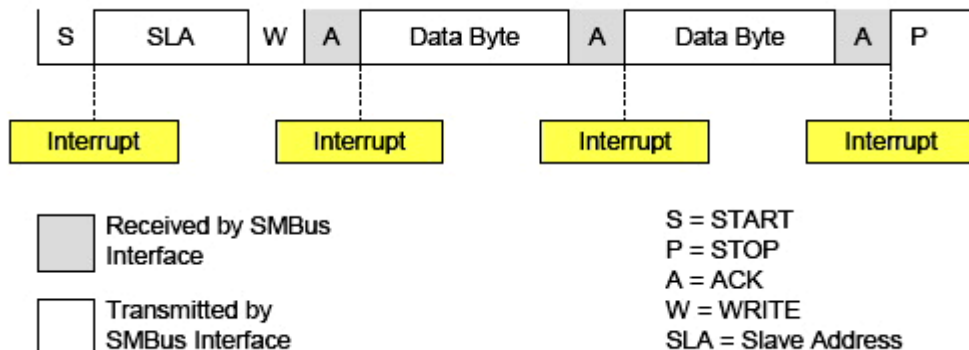

Figure 4.11 - Typical Master Transmitter Sequence
There are two modes; (1) Master Transmitter Mode is used to talk to a slave device and (2) Master Receiver Mode is used to listen to a slave device. The Master Transmitter Sequence (see *Figure 4.11*) starts with the Master sending a START signal followed by a byte containing the 7-bit slave address (bits 7-1) with the R/W bit (bit 0) *low**, indicating a write sequence. The Slave should then send an acknowledge (ACK) signal. The Master will then send one byte of data, check for ACK from the Slave, and repeat until all data is sent. The transmission is ended by the Master sending the STOP command. The Master must know how many bytes to write.